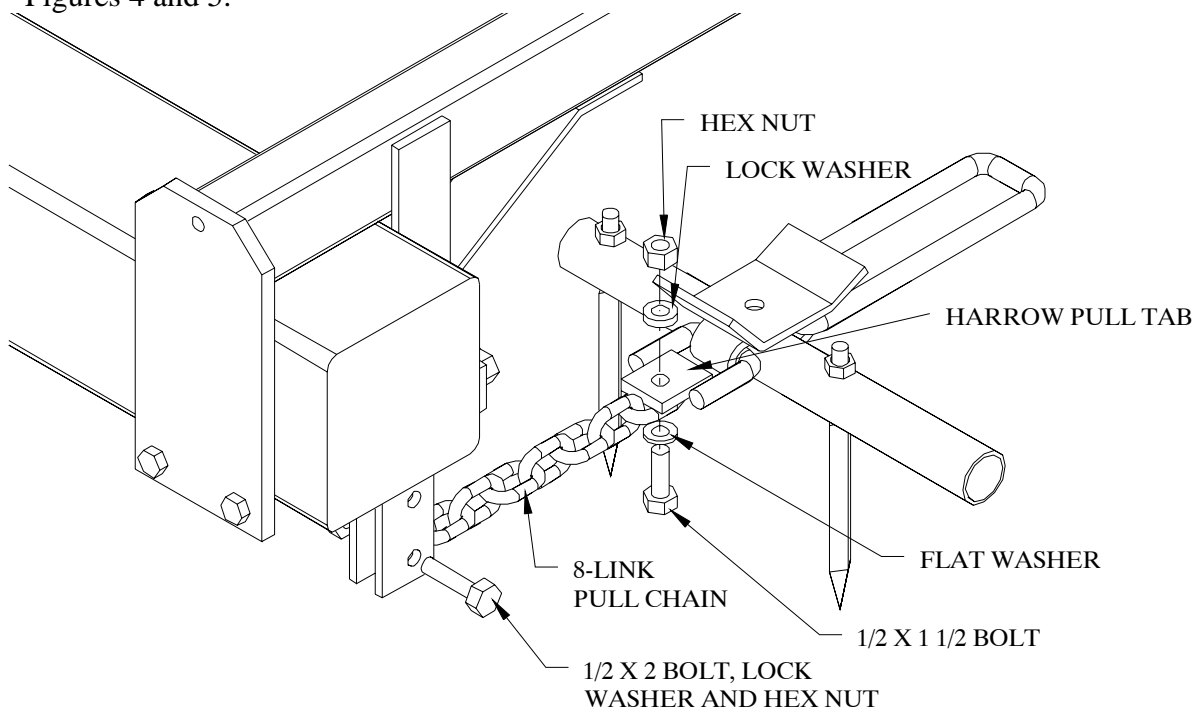

Figure 4
(Refer to figure 4 and 5)
1. After determining the desired angle of attack, position the harrow sections under the lift arms according to the diagram in appendix B. With the harrows in the proper position, attach the front 8-link pull chains and the rear 8-link lift chains to the harrow sections as shown in Figures 4 and 5.